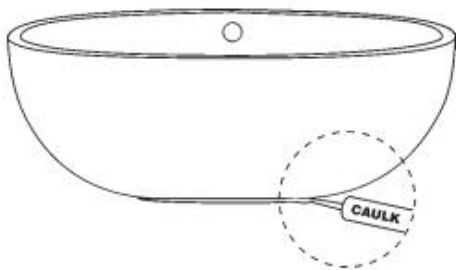

figure 15
22. Run a bead of tub and tile caulk around the bottom edge of the bathtub where it meets the floor. Wipe off any excess caulk with a wet cloth (figure 15).